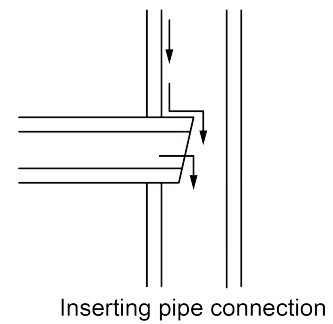

Fig.4.42
- NO3: Set into horizontal pipe as show in Fig.4.42.